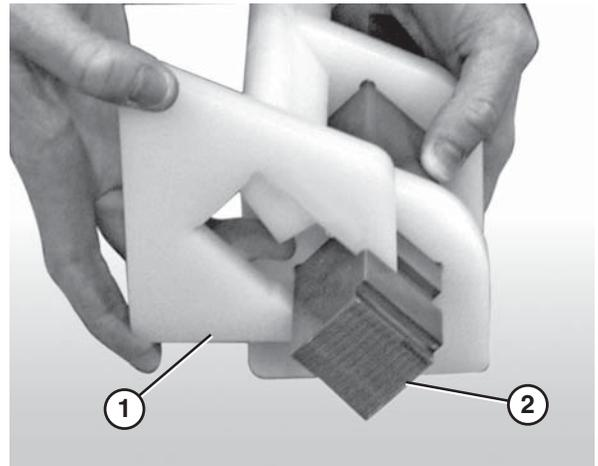

Figure 68
3. Attach the nose bar tracking pucks (**Figure 68, item 1**) to the nose bar drive post (**Figure 68, item 2**).